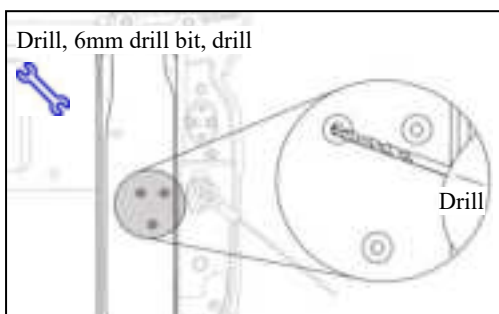
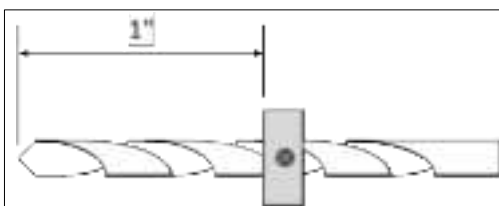

Fig. 1-2
Fig. 1-3
(3) Drill the three holes through the center point just marked with a 6.0 mm drill bit (Fig. 1-2). Set drill stop to 1" (Fig. 1-3).
(4) Debur the holes just drilled and apply sealant around the holes.